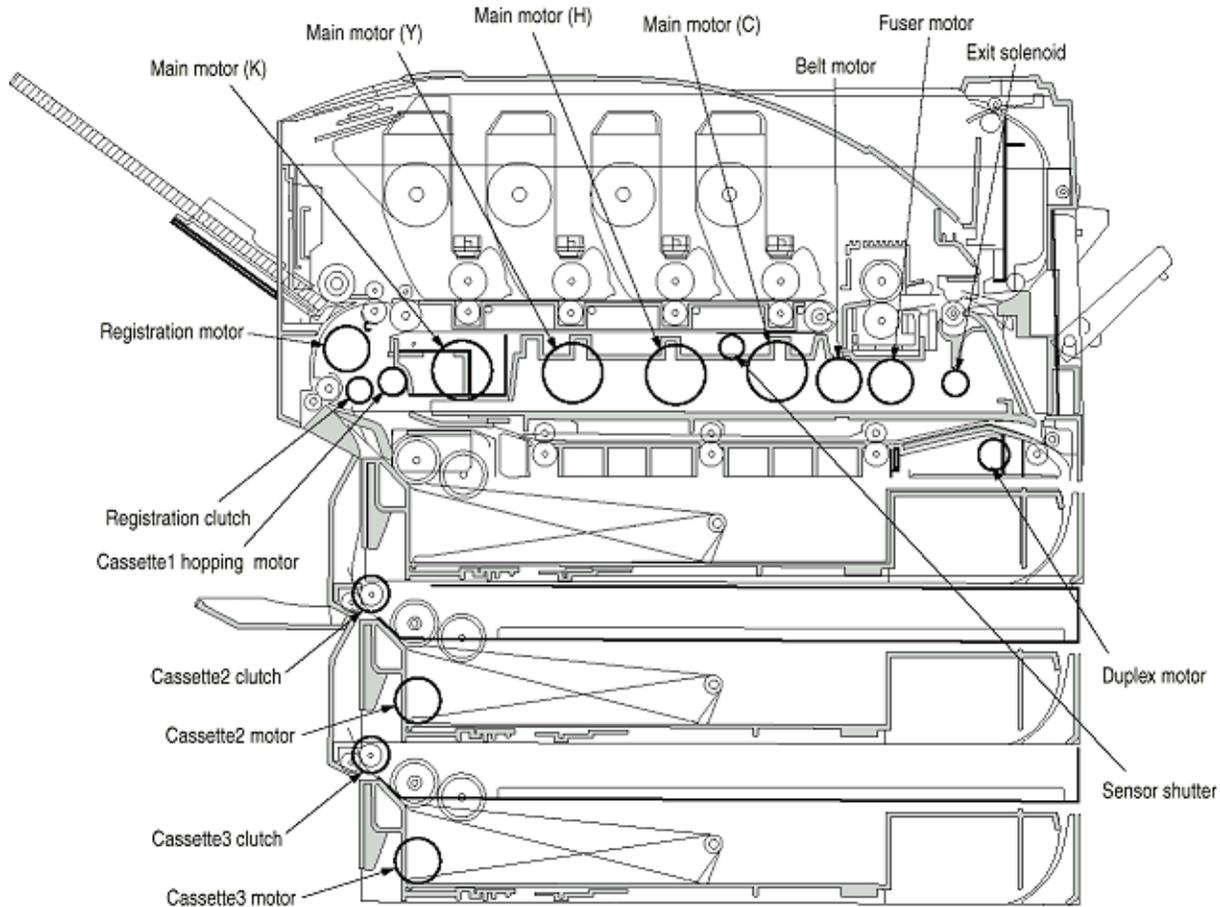

Figure 4-3
3. Pressing the (3) key starts the test, the unit name blinks, then the corresponding unit is driven for 10 seconds (refer to Figure 4-3).